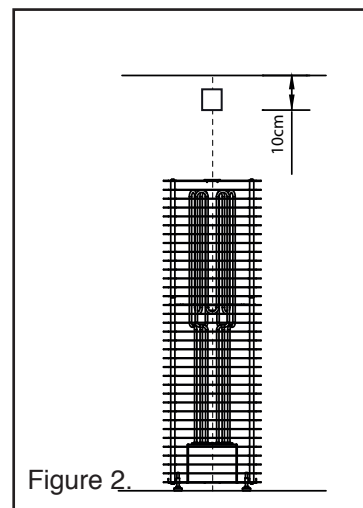

Figure 2.
- Install temperature sensor to the wall, above the sauna heater so it is located 100mm below the ceiling. (see Fig. 2)